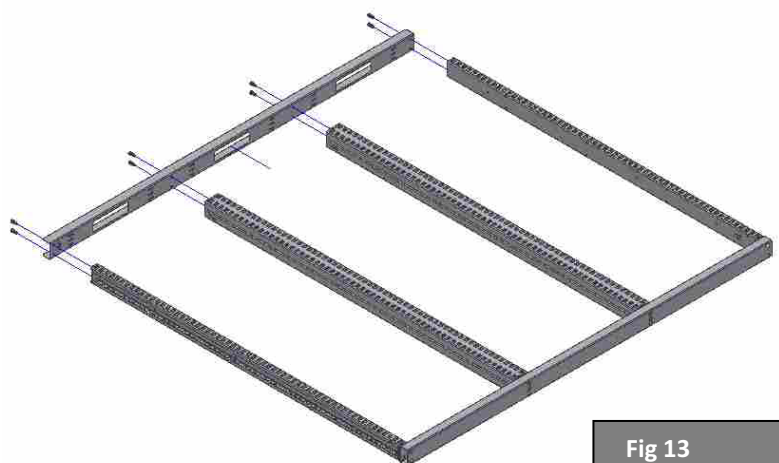

Fig 13
STEP 3b – Position the top U-shaped profile on the **frame** (Fig. 13).